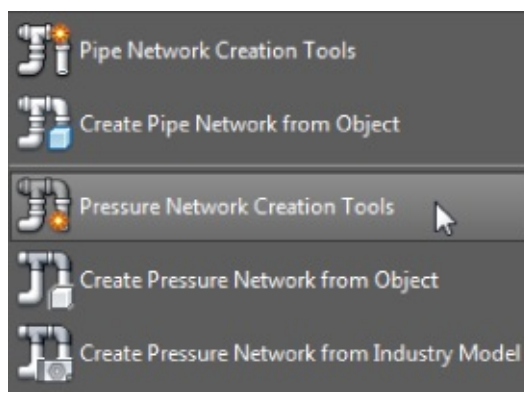

Figure 13.83 Selecting Pressure Network Creation Tools
2. From the Home tab > Create Design panel, click Pipe Network > Pressure Network Creation Tools, as shown in Figure 13.83.